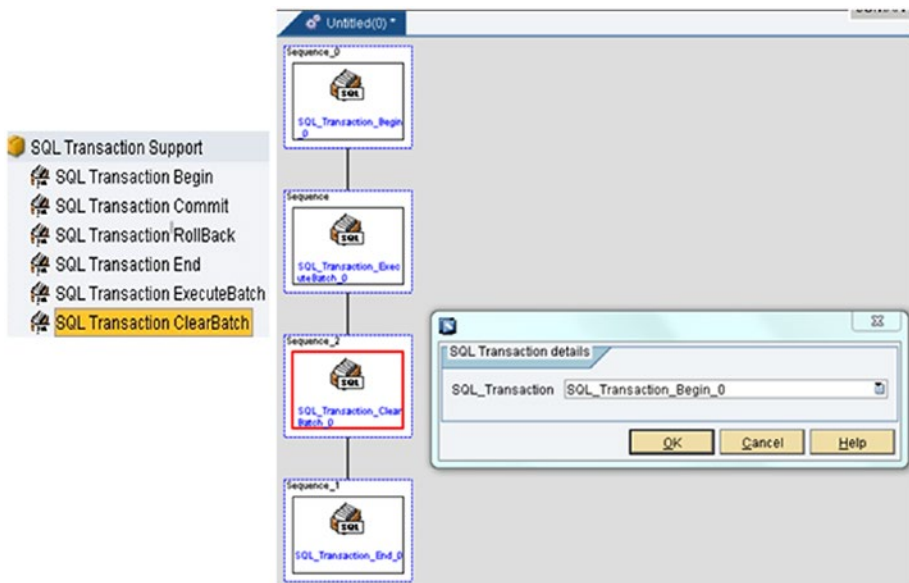

Figure 7-176. SQL Transaction Clear Batch action block and its configuration
- *SQL Transaction Clear Batch*: This action block clears the batch processing in the queue, as shown in Figure 7-176.